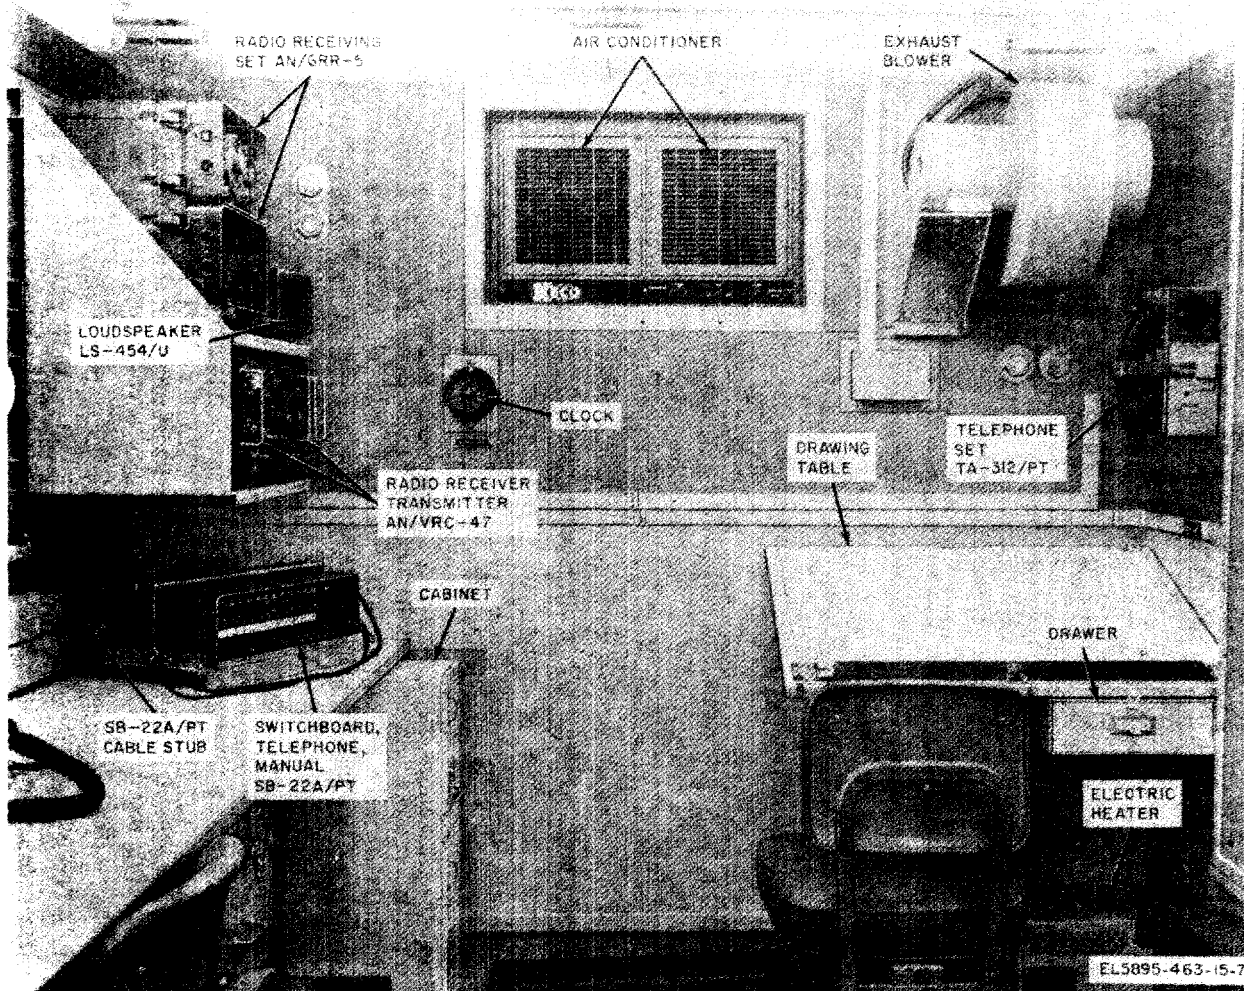

Figure 1-7. Operations Center, Communications AN/MS-31A, interior front view.
(1) *Switchboard, Telephone, Manual SB-22A/PT* (fig. 1-7). The SB22A/PT (TM 11-5805-262-12) is a local, battery-powered telephone switchboard used to swith 12 telephone circuits.
(2) *Telephone Set TA-312/PT* (fig. 1-7). The TA-312/PTs (TM 11-5805-201-12) are used for local telephone communication. One TA-312/PT (less carrying case) is mounted on the curbside wall. Two TA-312/PTs are stored in a storage cabinet; when required for use, they are placed on the tabletop adjacent to a PHONE jack.
(4) Radio Set AN/VRC-47. The AX VRC-47 (TM 11-5820-401-10) provides short range, two-way, frequency-modulated (FM) radiotelephone communications between vehicles or crew-served weapons. The AN VRC-47 radio set consists of Receiver-Transmitter, Radio RT-524/VRC (fig. 1-7) and Receiver, Radio R-112 VRC (fig. 1-7), and Loudspeaker, Permanent Magnet LS-154/U (fig. 1-7).
(5) Radio Receiving Set AN/GRR-5 (fig. 1-7). The AN GRR-5 (TM 11-5820-284-15) is a mobile amplitude modulated (am.) receiver used primarily to monitor warning broadcast nets. The AN GRR-5 consists of Receiver R-174/GRR-5, Power Supply PP-308/URR, and accessories.
b. *Blowers.* The blowers, one store and one installed, are equipped with removable covers which muffle the sound when the blower is in operation. The installed blower (fig. 1-7) is an exhaust blower to the outside of the shelter.